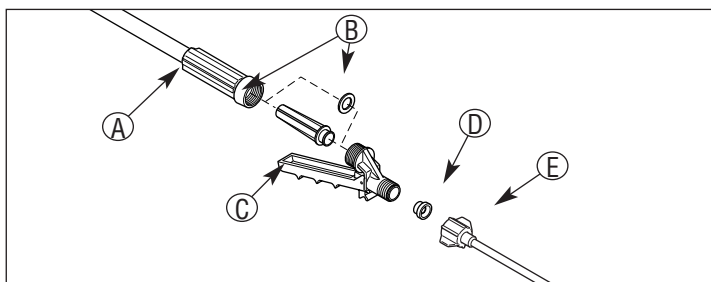

Figure 16. Shut-Off Maintenance (Rotate-Lock Style)
1. Unscrew the handle from the shut-off assembly. See Figure 16.